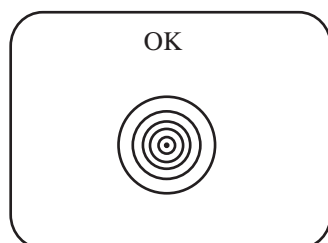

Fig.1
In case the shape is like "Fig.1", remove the lens from the alignment equipment.
- Rotate the micrometer (X-axis and Y-axis) so that the point image on the monitor is like "Fig.1".
- When the point image becomes like the above "Fig.1", tighten the three (loosened) screws of the 4th lens-G unit with the below three alignment screwdrivers.
(4) Chart shooting for the rear lens group alignment